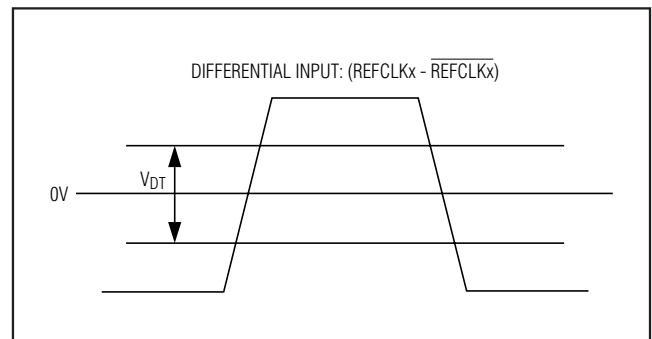

Figure 8. Input Amplitude Detection Threshold
- C) Input reference clock differential swing is below the clock failure assert threshold as specified in the *Electrical Characteristics*. See Figure 8.